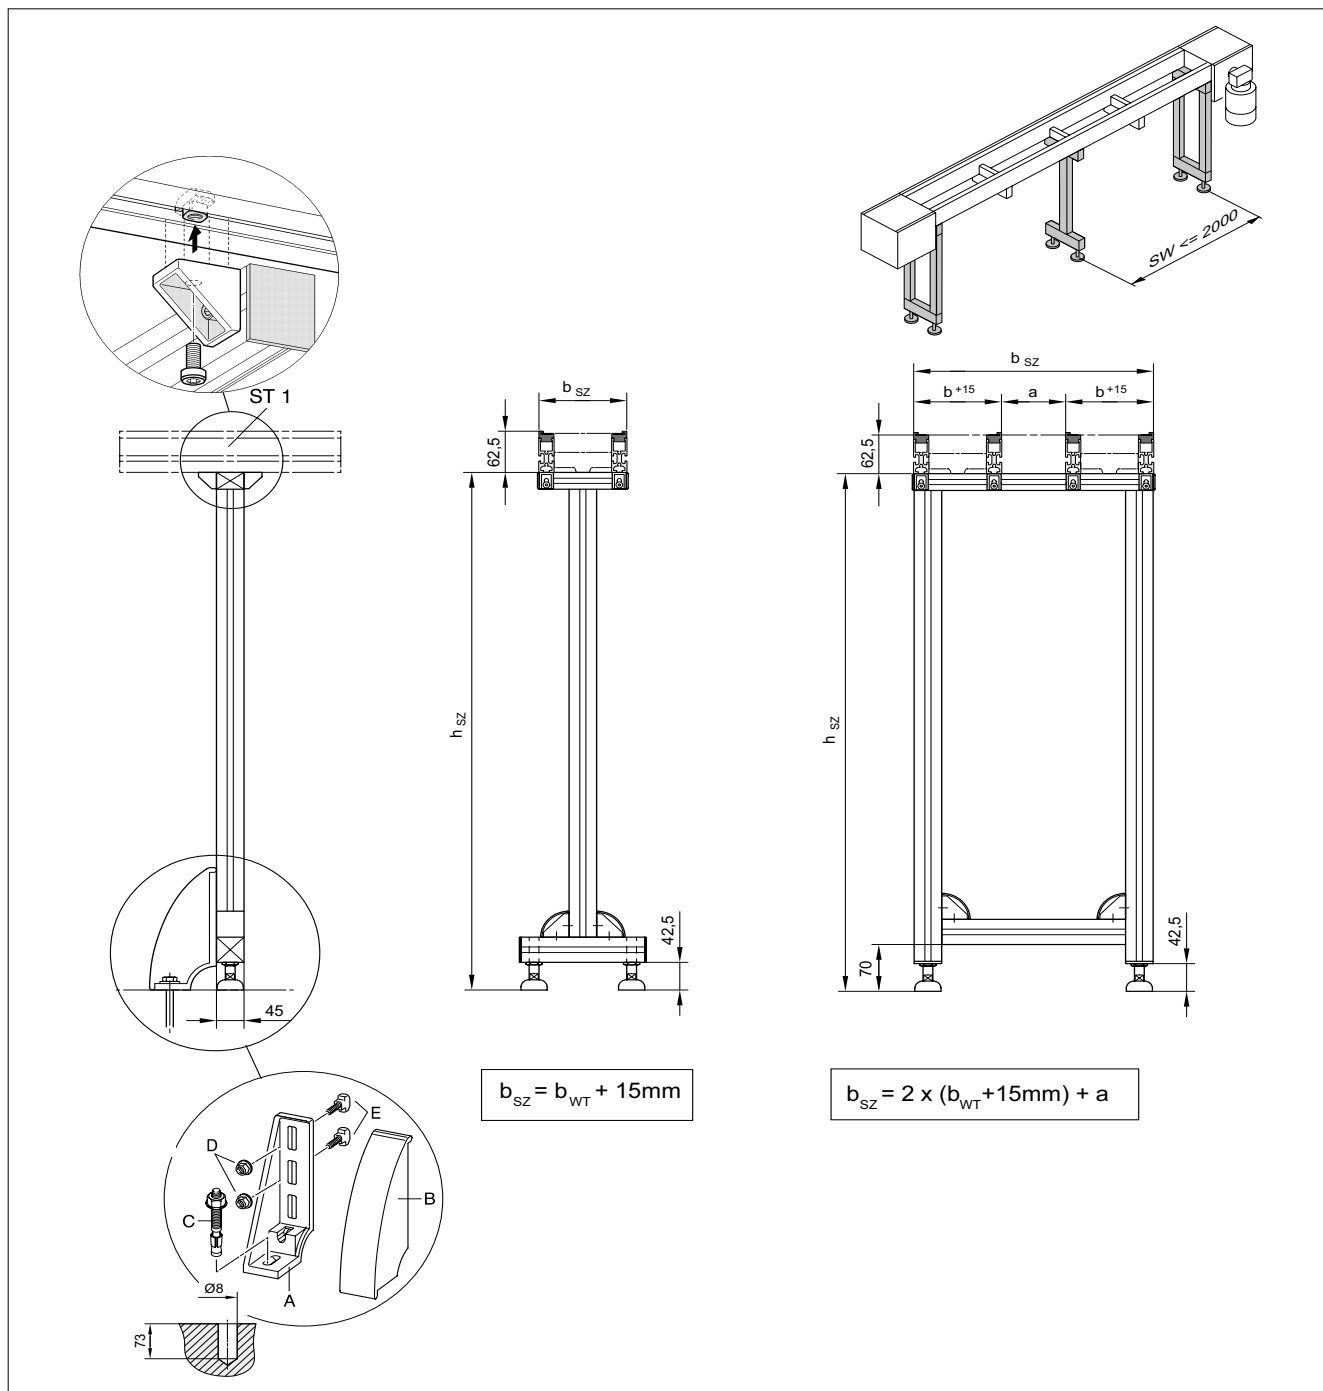

Fig. 11: Assembly of section ST 1 on section support SZ 1
- Drive modules and return units as well as section joints must be supported. Before belt assembly, the leg sets are anchored to the floor with foundation brackets (Fig. 11).